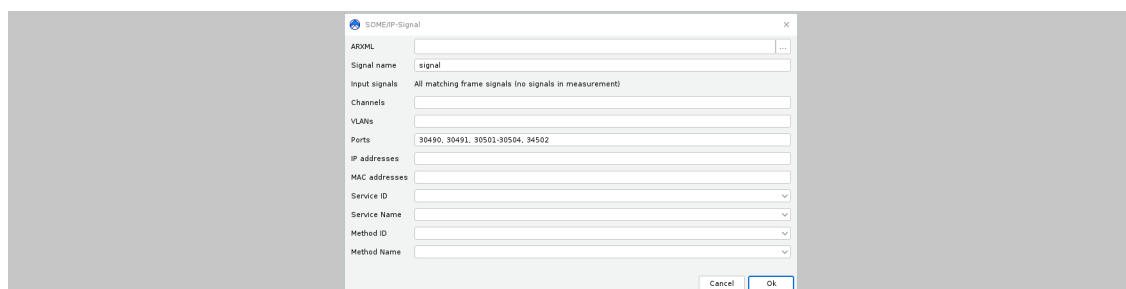

Figure 17: The SOME/IP signals window
2. The frames can be filtered by channel numbers. If the channels fiels is left empty, all channels are considered. Otherwise a comma-separated list of channels and channel areas is expected (see Figure 17).
3. The frames can be filtered by VLANs. If the channels field is left empty, all channels are considered. Otherwise a comma-separated list of channels and channel areas is expected (see Figure 17).
4. The frames can be filtered by TCP/UDP ports. If the ports field is left empty, all ports are considered. Otherwise a comma-separated list of ports and port areas is expected (see Figure 17). All ports and addresses are considered for source AND destination.
3. In the window that opens, provide the name and filter criteria vor the SOME/IP signal. Depending on the type of signal some parameters from figure 17 might not occur.